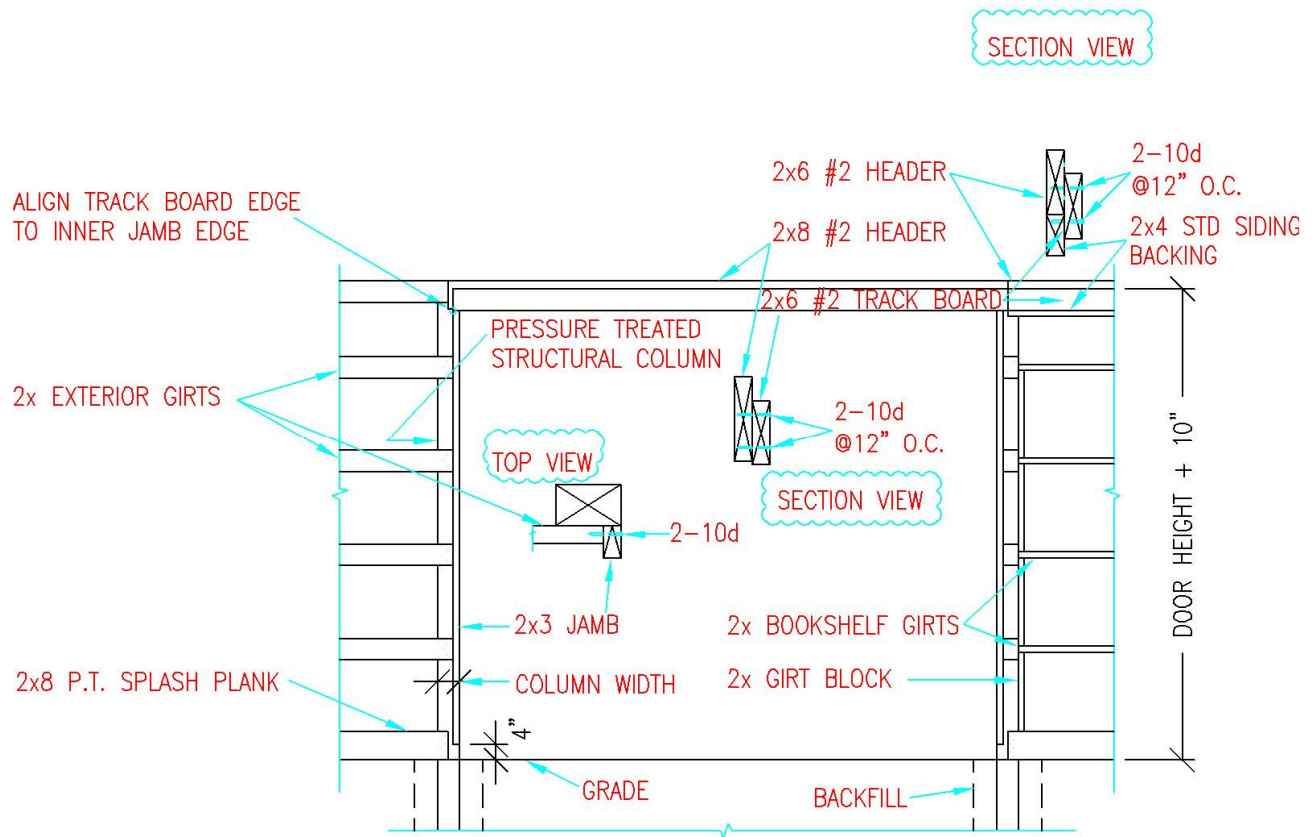

Figure 25-5: Sliding Door Track Board
See Figure 25-5
If sliding door opens from left to right (as in **Figure 25-5**), track board left end will install flush with left sliding door jamb left side (reverse all directions for doors sliding from right to left). Nail track board to sliding door header with two (2) 10d commons at 12" o.c. Nail track board to siding backing with a 10d common at 12" o.c.